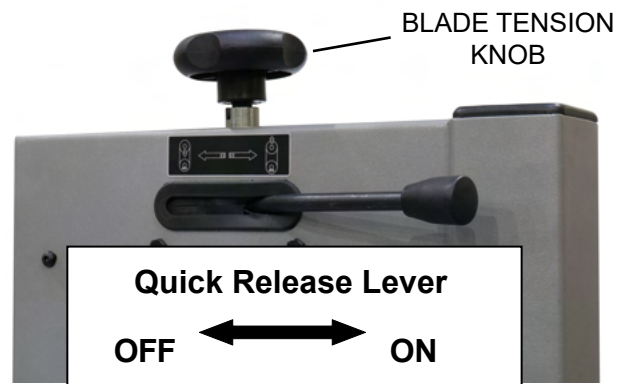

Fig. 50
**CAUTION!** Always tension the blade with the rear Quick Release Lever in the “ON” position. Failure to do so could result in lack of blade tension or tension failure. FIG. 50
1. Adjust the blade tension by turning the Blade Tension Knob on top of the saw (FIG. 50)